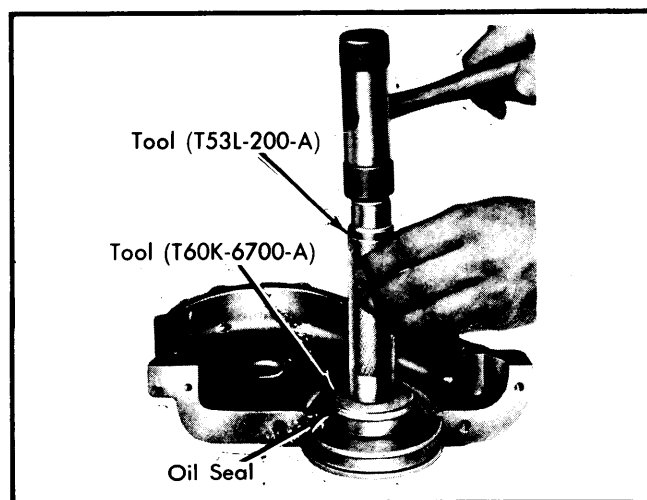

Fig. 9 Installing Front Cover Oil Seal
**Removal & Installation** — Drive out oil seal with a pin punch. Clean recess in front cover. Coat new seal with grease and install. Drive seal in until fully seated in recess. Inspect seal to ensure spring is properly seated in seal. See Fig. 9.